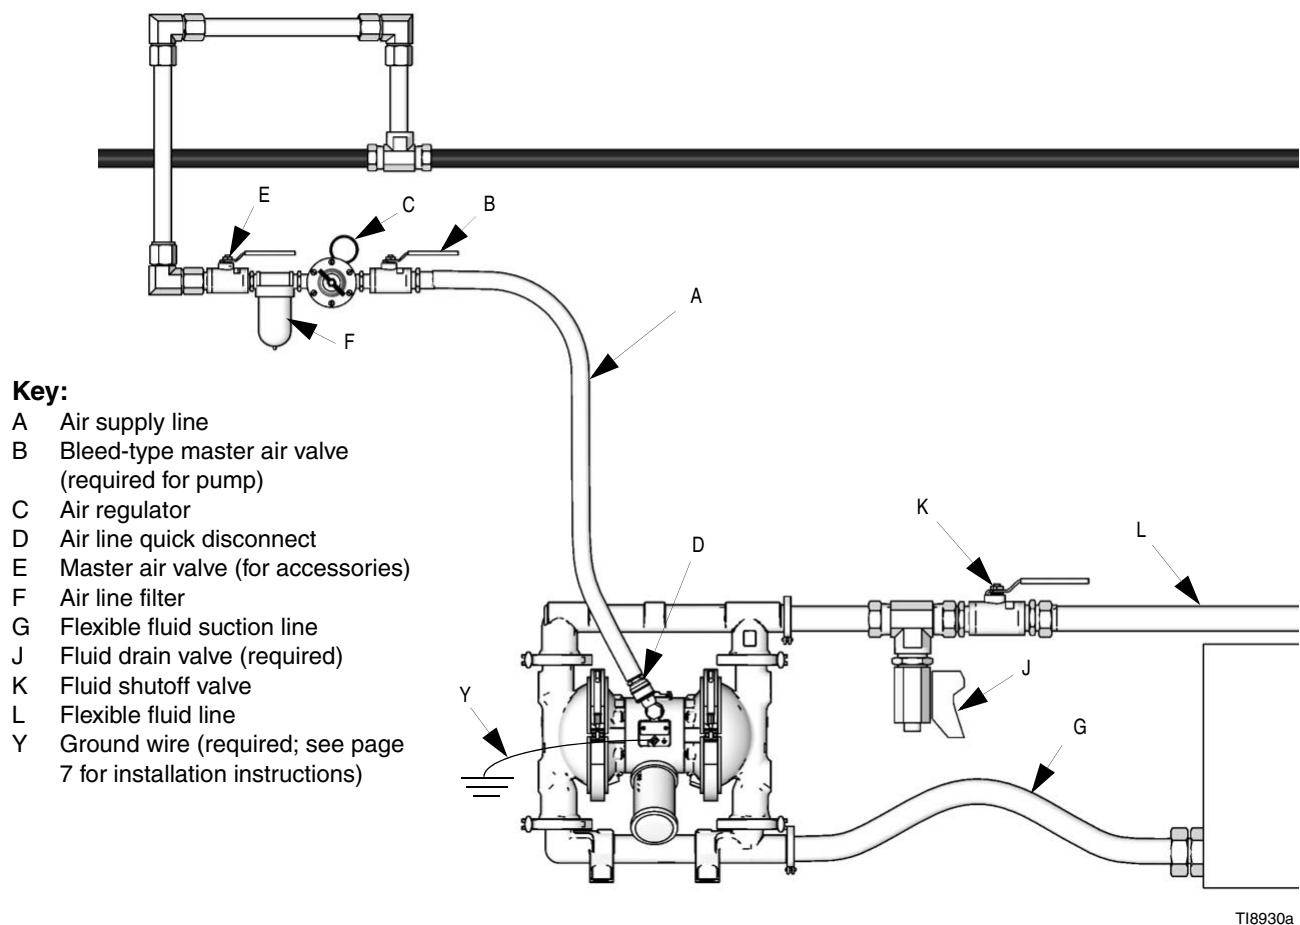

FIG. 2 Typical Floor-Mount Installation
- The typical installation shown in FIG. 2 is only a guide for selecting and installing system components. Contact your Verder representative for assistance in planning a system to suit your needs.
1. Install the air line accessories as shown in FIG. 2. Mount these accessories on the wall or on a bracket. Be sure the air line supplying the accessories is grounded.
- a. Install an air regulator (C) and gauge to control the fluid pressure. The fluid outlet pressure will be the same as the setting of the air regulator. The air line filter removes harmful dirt and moisture from the compressed air supply.
- b. Locate one bleed-type master air valve (B) close to the pump and use it to relieve trapped air. Be sure the valve is easily accessible from the pump and located downstream from the regulator.
1. Use flexible grounded fluid hoses (L).
3. Install a fluid drain valve (J) near the fluid outlet. See the **WARNING** above, and FIG. 2.
4. Install a shutoff valve (K) in the fluid outlet line.